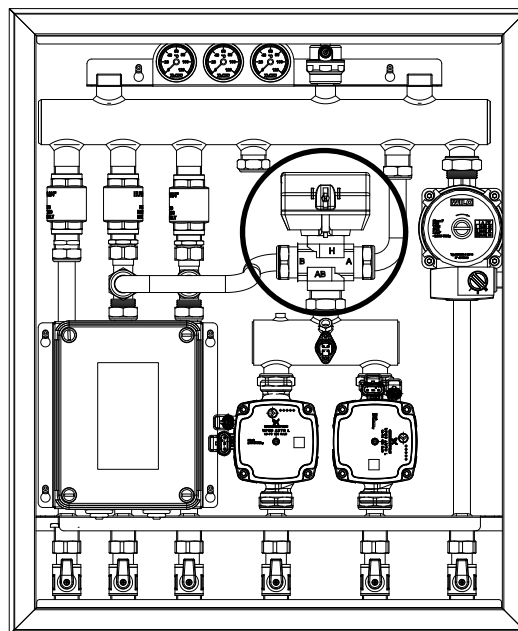
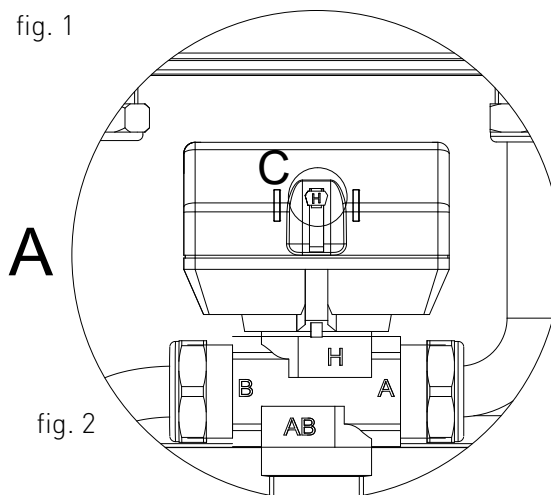

fig. 1
fig. 2
3. Act manually on the 3-way mixing valve by positioning lever C of the mixing valve electrical actuator (fig. 1) from position A (fig. 2) to position B (fig. 3).
Once the operation is completed, make sure that the plant filling tap is closed and position the lever C of each mixing valve back to their original positions indicated in position A of Fig. 1, proceeding with dismantling and remounting the motor on the mixing valve body as follows:
1. Press the release device placed under the motor 1 (fig. 1).